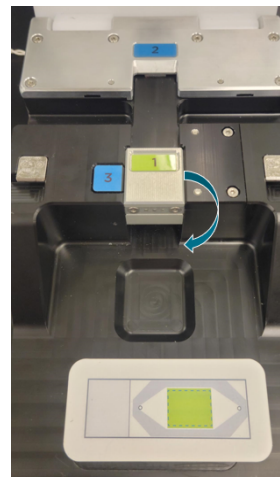

Figure 115: Lower Tailgate
4. **Lower the tailgate** (tool marker 1) on the flow cell assembly tool (Figure 115). Hold the labeled end of the slide and insert the slide, tissue side up, non-labeled end first, into the tool through the bottom opening. The slide is fully inserted once the non-labeled edge contacts the back of the slide stage (tool marker 2).